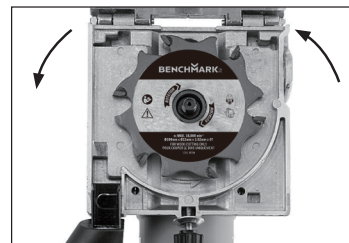

Fig. 23. Blade installed with teeth correct direction.
8. Install new blade, verify teeth face correct direction for rotation of spindle, as shown in Figure 23